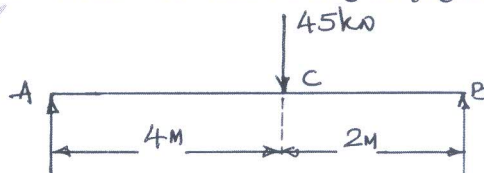

Fig.Q6(a)
- 6 a. A beam 'AB' of span 6m carries a point of 45 kN at a distance of 4m from left support end A as shown in Fig.Q6(a). Find: (i) Slope at A and B (ii) Deflection under the load. Take $E = 200 \text{ kN/mm}^2$ and $I = 8.325 \times 10^7 \text{ mm}^4$. Using conjugate beam method.